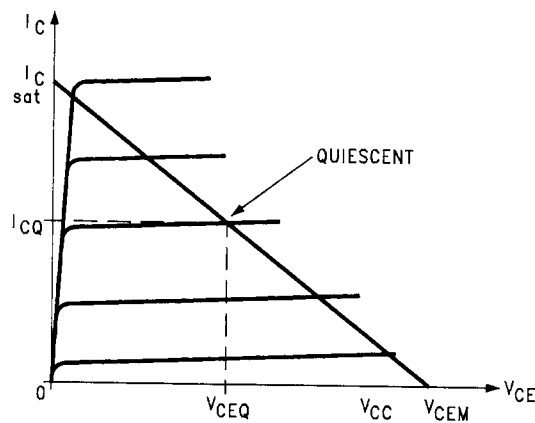

fig.B18.3
2. the value of I_{Csat} is determined, by drawing the load line to cut through the Q point and ($V_{CEM}, 0$) (figure B18.3)